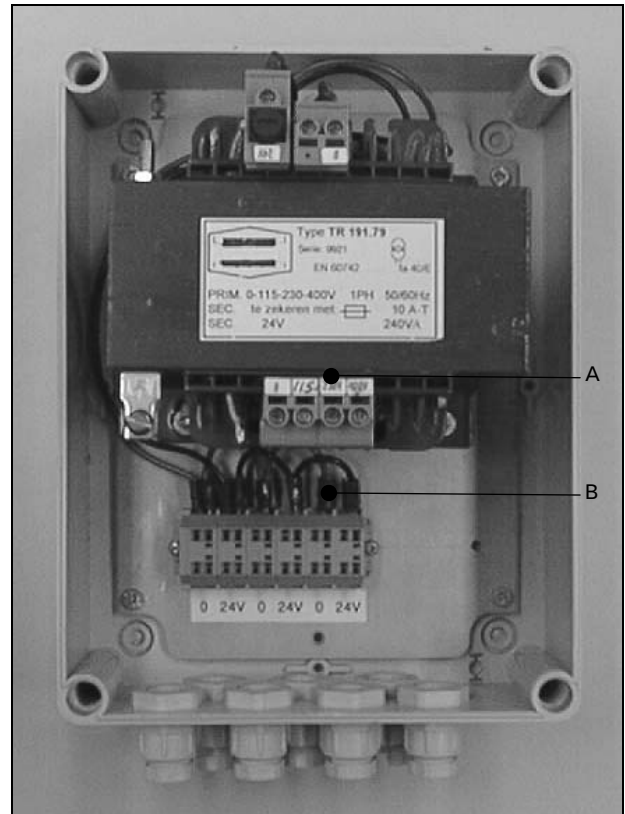

fig. 4
- Loosen the mounting screws (A) and remove the cover (see fig. 4).
- Attach the housing using four screws against the wall. For this purpose mounting holes (B) have been provided in the housing (see fig. 4).
- working light (WL) (max. 6)